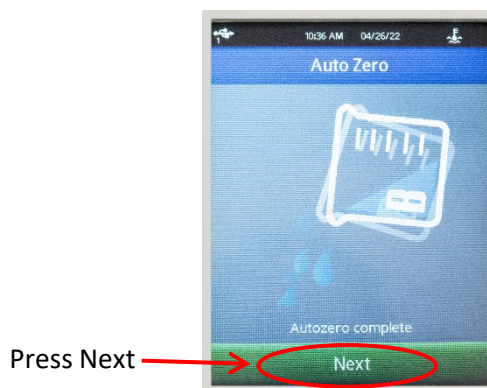

Figure 11: Auto Zero Complete Screen
3. When **Auto Zero** is complete, select **Next** and raise head unit. See Figure 11.
6. When the Auto Zero process is complete, press the green **Next** button. See Figure 11.